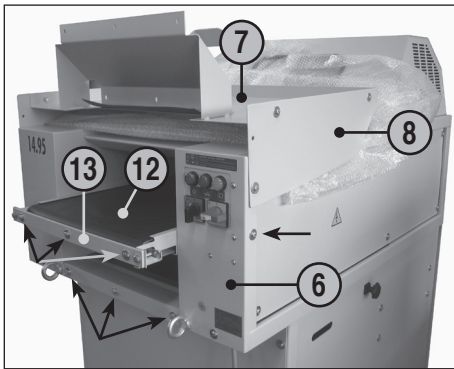

fig. 1
- 6 = Housing (fig. 1, 2, 4)
- 7 = Table (fig. 1, 2, 4, 5, 6)
- 8 = Guard panel (fig. 1, 2, 4)
- 12 = Conveyor belt (fig. 1, 2)
- 13 = Conveyor belt retainer (fig. 1)
POSITIONING OF THE TABLE (7) (figs. 1, 2 and 3):
1. Unscrew each of the 3 screws with washers on the front wall of the housing (6) and on the front of the conveyor belt attachment (13) as well as the one screw on both sides under the protective plate (8) (see arrow markings fig. 1).